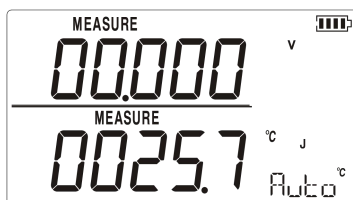

Figure 5.1-2
3. Press  for the TC display. If desired, continue pressing this key to select the desired thermocouple type as shown in Figure 5.1-2.